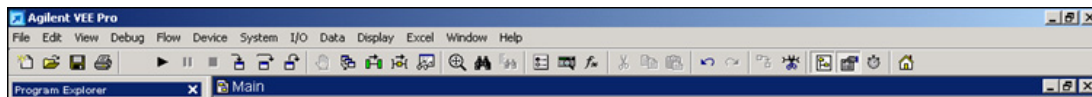

Figure 1-4 The Toolbar
- 1 Examine the Toolbar which is the third row from the top of the screen. See Figure 1-4. It contains several titles and icons that will be explored gradually during the next several exercises.